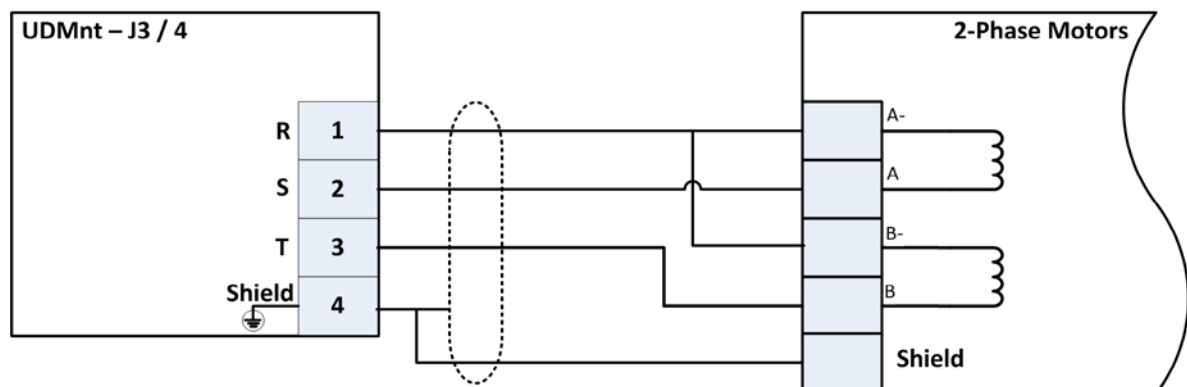

Figure 19. 2-Phase Motors (AC synchronous, Step Motor) Connections
- 2-phase (AC synchronous, step motor), see Figure 19.